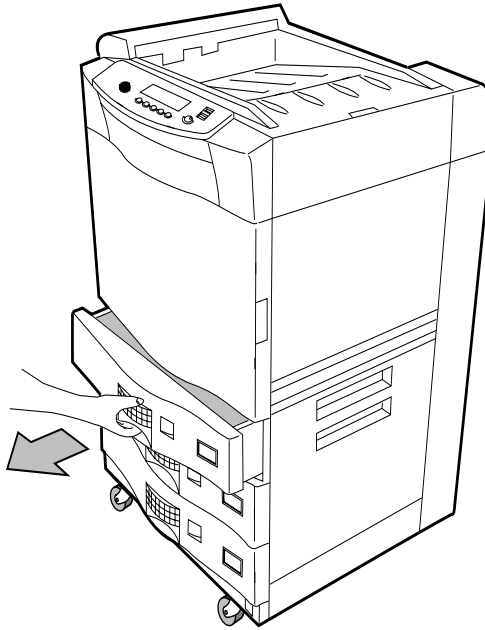

Figure 2-38 Pulling out Paper Tray
1. Pull out the paper trays one at a time. See Figure 2-38.